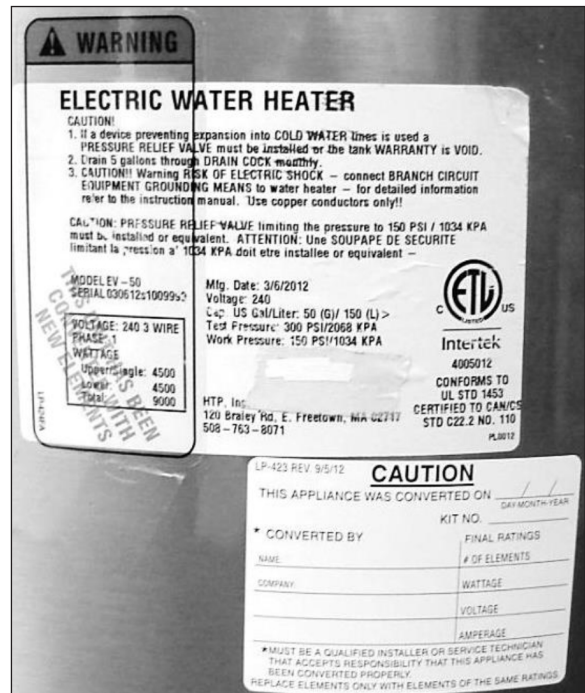

Figure 6 - Example of Conversion Label Replacement
- a. The Qualified Service Technician should fill in the white label with all conversion information in permanent ink. Place the completed label in an area close to the electric water heater rating label. See Figure 6.
- b. Place the clear warning label that states, **“THIS WATER HEATER HAS BEEN CONVERTED”** over the electric water heater rating label on the water heater. Ensure the original model and serial numbers remain exposed. See Figure 6.